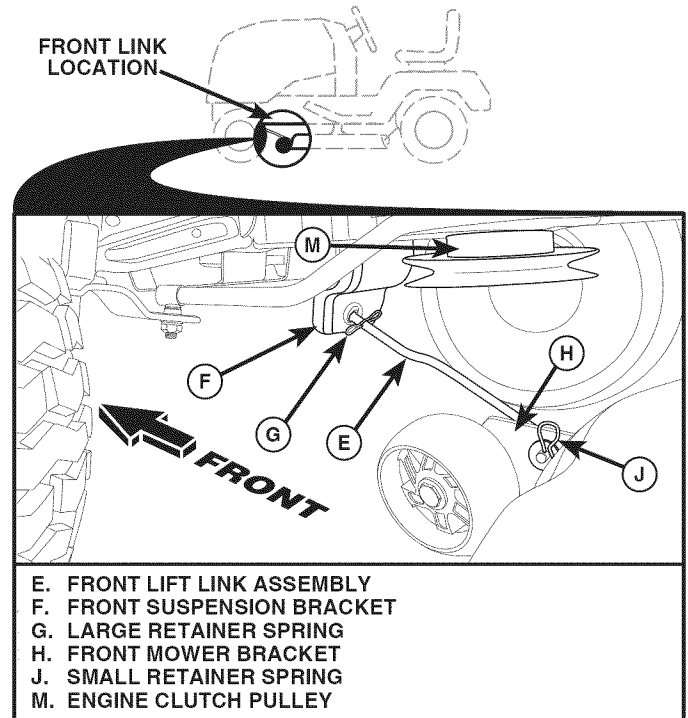

Fig. 38
8. ATTACH FRONT LINK (E) (See Fig. 38)
- From front of tractor, insert rod end of front link (E) through front hole in tractor front suspension bracket (F).
- Move to left side of mower and insert large retainer spring (G) through hole in front link (E) behind front suspension bracket (F).
- Insert other end of link (E) into hole in front mower bracket (H) and secure with washer and small retainer spring (J).